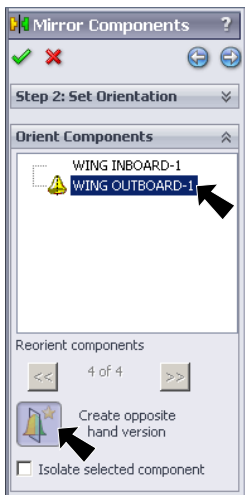

Fig. 97
- click the **Wing Outboard**, **Fig. 97**
- click **Create opposite hand version** , **Fig. 97**